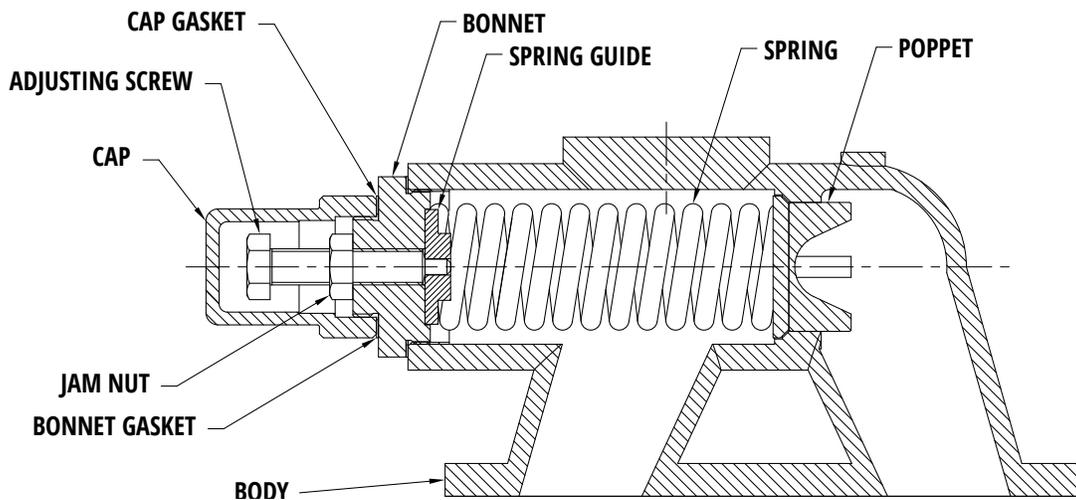

Figure 12 - Relief Valve
Disassembly of relief valve (see figure 12)
- Re-assembly of relief valve (see figure 12)